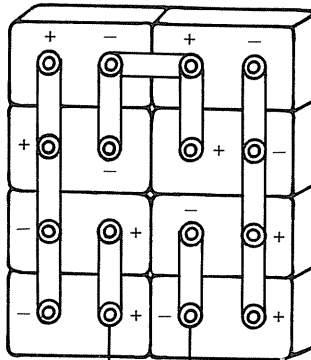

Fig. 12 + 1.6V -
Use 2 pcs of cells to connect in parallel to increase the current (I) 2 pcs x 100mA = 200mA of each part. Then use 4 parts of 200mA to connect in series to increase the voltage, 4 parts x 0.4V = 1.6V Now the solar panel output is 1.6V 200mA see Fig. 12
4. Make sure that the polarity (Negative and Positive) of the solar panel is correct as set out in your circuit format i.e. fig. 12
5. On the back of each solar cell the positive and negative are shown. These show through the holes in the back of the tray to enable you to check that your solar cells have been placed in the correct order as per your circuit format. See fig. 12 and fig. D
7. To make a solar panel for the solar motor fan. The output of the solar panel required is 1.6V 200mA. Therefore, use 2 pcs cells to connect in parallel to increase the current (I) $2 \text{ pcs} \times 100\text{mA} = 200\text{mA}$ for each part, then use 4 parts of 200mA to connect in series to increase the voltage for the output 1.6V and 200mA. See fig. 12 and Chart B-1.5V.